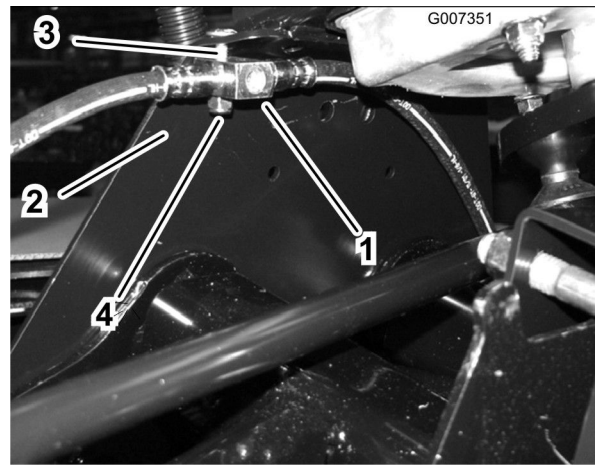

Figure 10
1. Move the front of the vehicle. Locate the front hydraulic hose assembly and the in-line "Tee" connection (Figure 10). Secure the center "Tee" portion of the brake line to the frame using a carriage bolt (1/4 x 1-1/4 inch) and lock nut (1/4 inch).